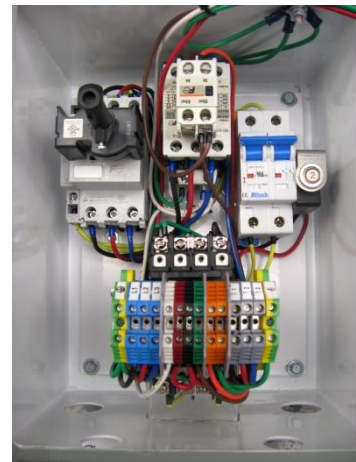

Figure 1: Wiring the Control Unit
- a. Install the end the cable with the sheath cut back about 5 inches into the right front cord grip and connect the wires to the two orange connectors as shown in the Figure 1.
- b. Install the end with the cable sheath cut back about 5 inches (125mm) into the right front cord grip and connect the Red, Green, Black, and White wires to the red, green, black and white set of connectors also shown in Figure 1.